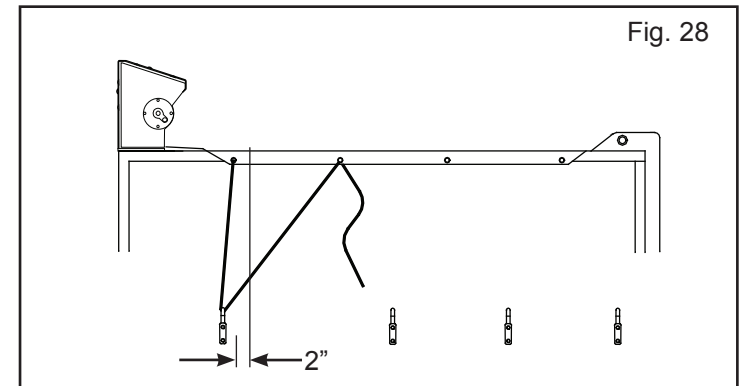

Fig. 28
1. Position the first hook 2" (5.08cm) forward of first tie down (Fig. 28).